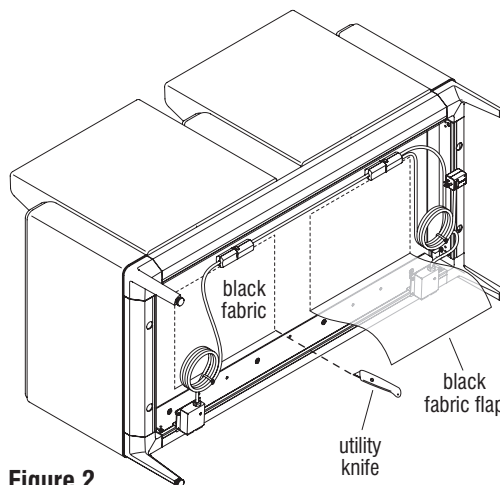

Figure 2
3. To gain access to the remaining bolts securing the arm to the seating unit frame, use a utility knife to cut three sides of a rectangle in the black fabric on the bottom of the lounge unit to make a flap near the affected arm as illustrated. If the middle lounge arm needs to be removed, cut three sides of a rectangle in the black fabric to make a flap on both sides of the middle arm. Let the fabric drape down so it does not interfere with removing the bolts in the next step (Figure 2).